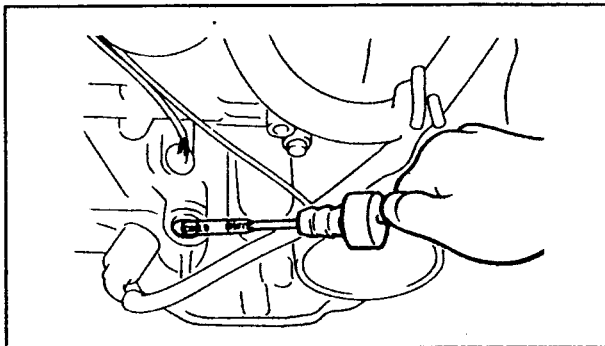

Fig. 8.2. — Checking the transmission fluid level.
- Remove the fluid level dipstick (Fig. 8.2) and check the indication. As the transmission fluid is hot, the fluid must be seen between the two lines where "HOT" is marked in the middle. If this is not the case, add Dexron or Dexron II fluid (both are suitable) through the filler tube. Never drive the vehicle with a low fluid level as air could enter the system, affecting the fluid pressure and causes all other sorts of trouble.